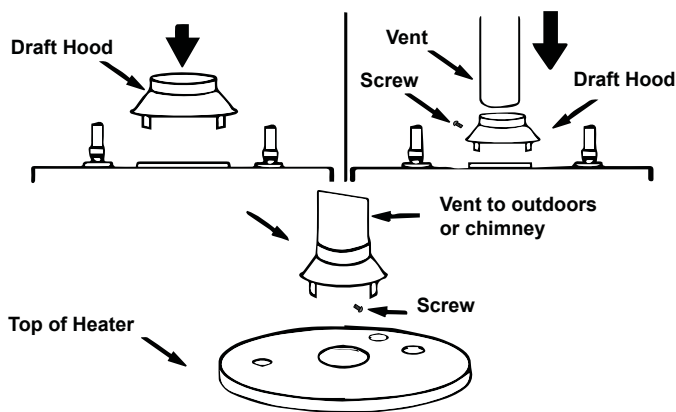

FIGURE 16. DRAFT HOOD ATTACHMENT
- Place the vent pipe over the draft hood. With the vent pipe in position, drill a small hole through both the vent pipe and draft hood. Secure them together with a sheet metal screw. See **Figure 16** (page 20).